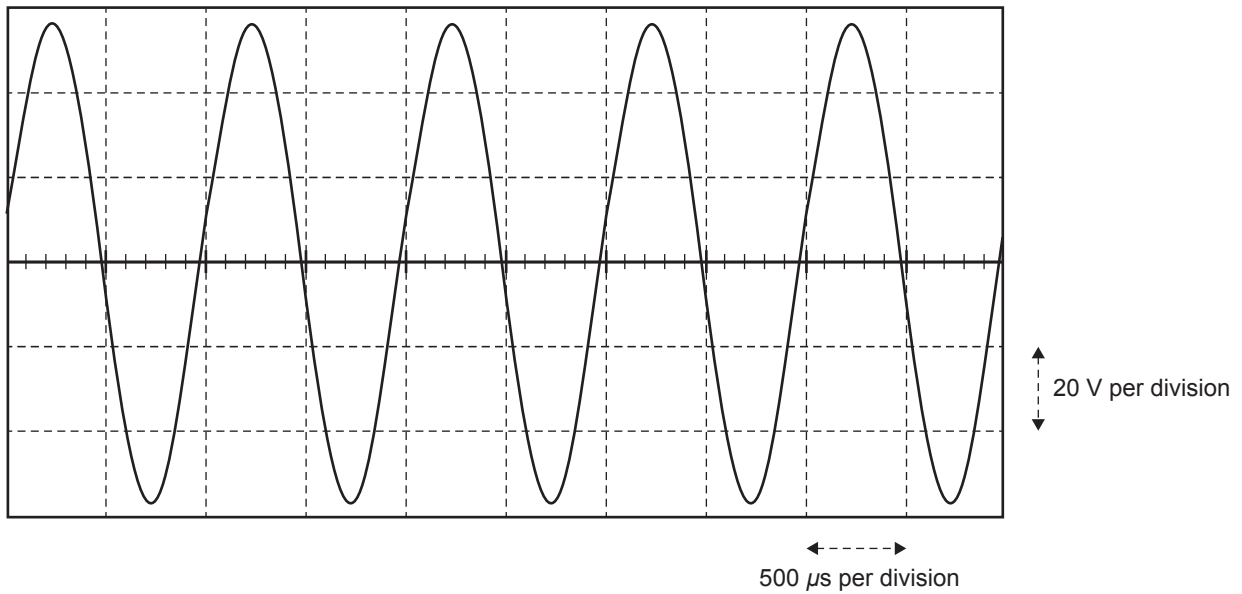

Figure 2
Figure 2 below is an oscilloscope’s display showing the output waveform from an oscillator.
a. i. Using the graph in Figure 2, find the following values. 2 marks